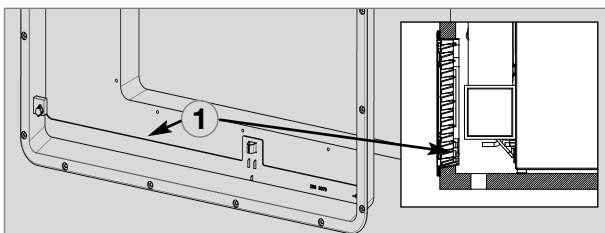

Fig. 15
**The gas burner must be located above the edge (1, Fig. 15).**